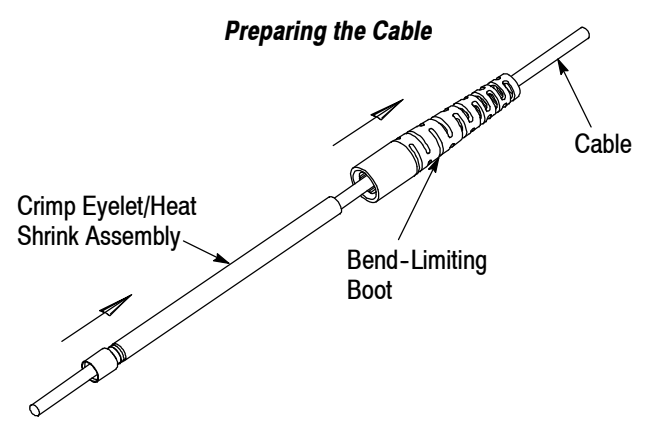

Figure 2
1. Slide the bend-limiting boot (small diameter end first) onto the cable. Then slide the crimp eyelet/heat shrink assembly (heat shrink end first) onto the cable. See Figure 2.